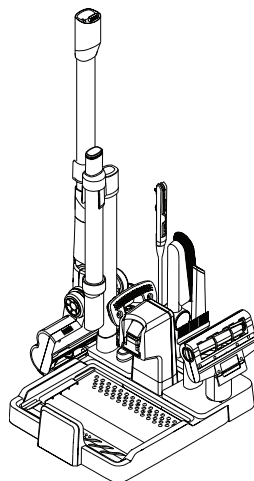

Figure 3
- Arrange attachments on the extended storage base (reference Figure 3).